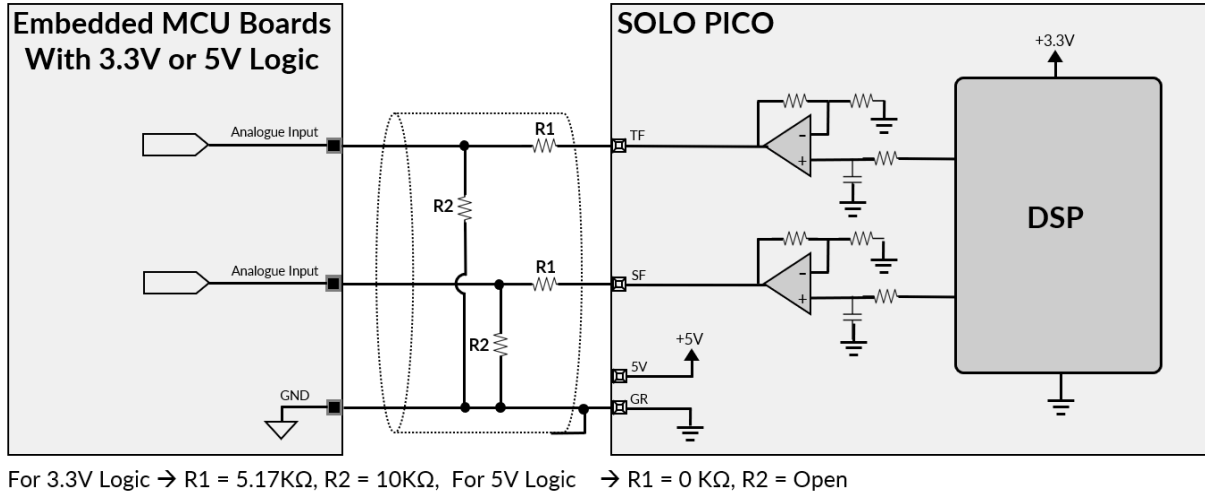

Figure 23- Analogue Torque and Speed feedback wiring
As can be seen in Figure 23 in order to connect these feedbacks to Embedded MCU Boards a voltage divider is necessary in the feedback path if the MCU board is not rated for 5V outputs. The recommended resistor values are shown in Figure 23.
- Selecting wrong resistors can permanently damage Embedded MCU Boards, try to use resistors that are shown in Figure 23.